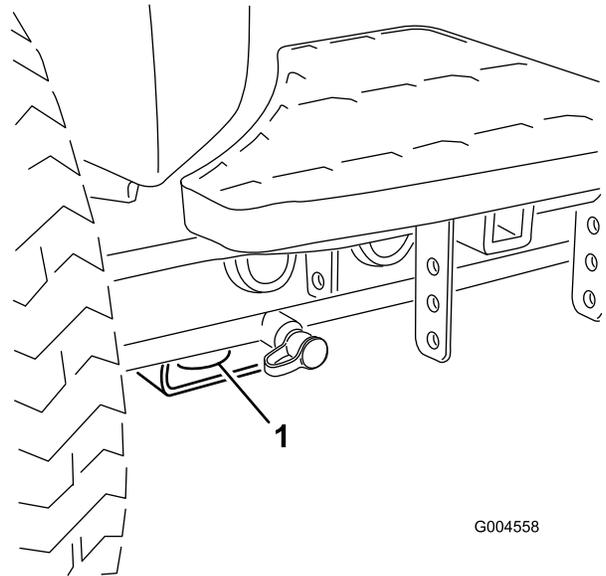

Figure 20
- Front—the hole in the rectangular pad, under the axle tube, inside each front tire (Figure 20).